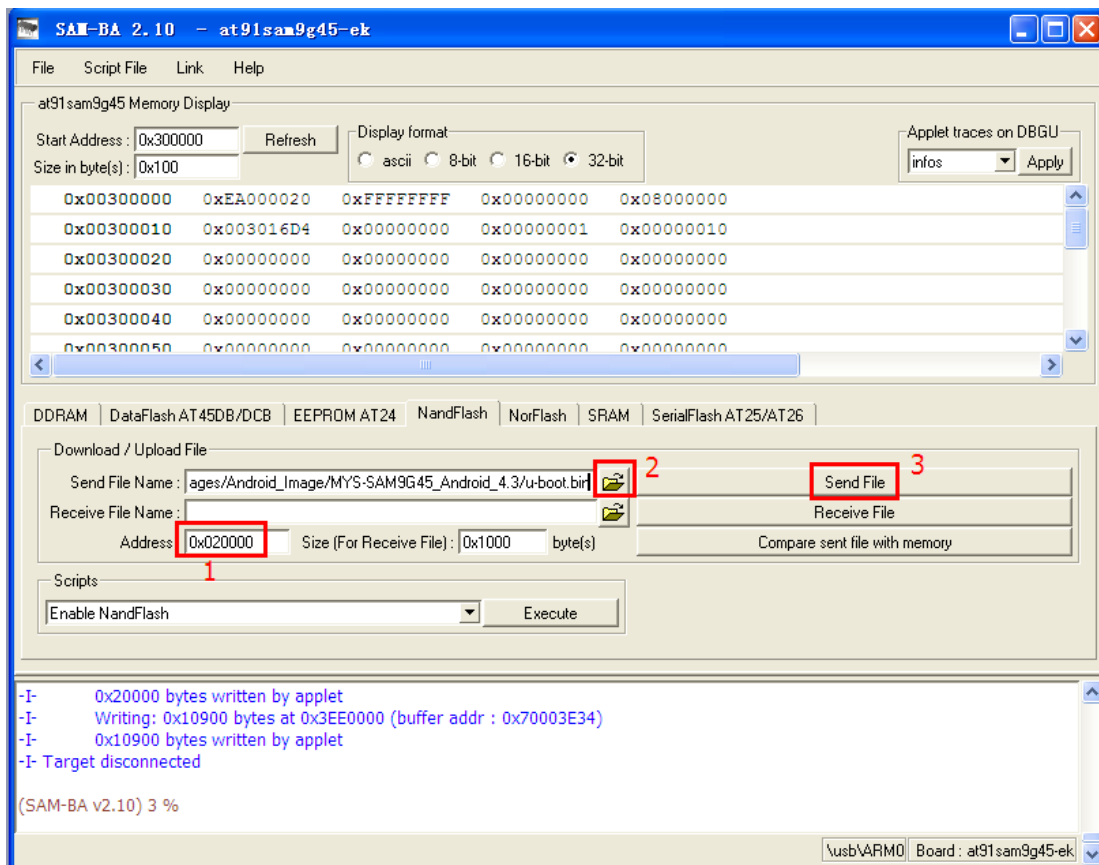

Figure 5-8
(5) Download u-boot.bin file to 0x20000. Refer to figure 5-8: